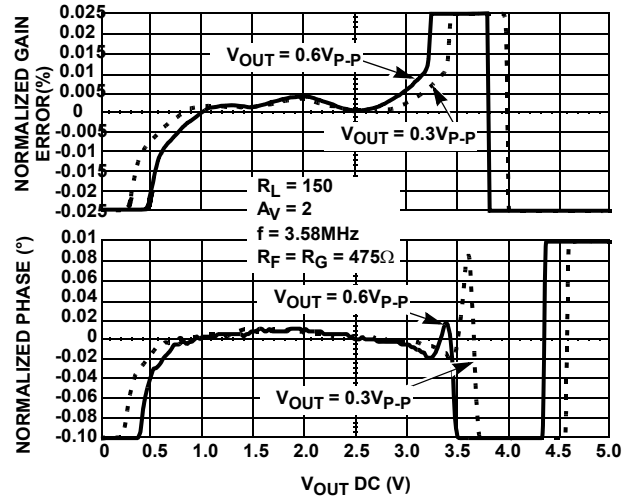
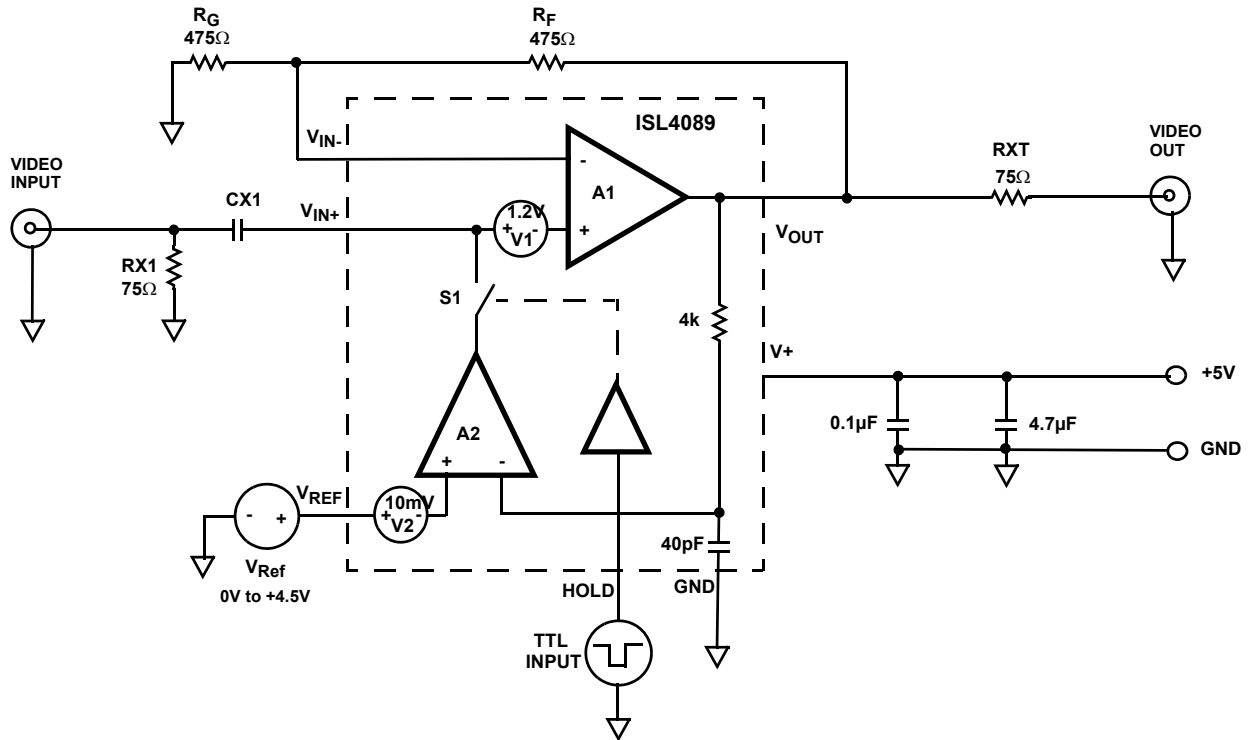

FIGURE 6. DIFFERENTIAL GAIN - PHASE
FIGURE 13. BASIC +5V APPLICATION CIRCUIT
**Video Amplifier Operation (Figure 13)**
**DC-Restore Amplifier (Figure 13)**
Implementing DC-restore and amplifying composite video using a single +5V supply amplifier, requires attention to the performance of the amplifier over the minimum to maximum range of output voltage swing. The differential gain - phase plot in Figure 6 shows the amplifier accuracy operating from a single +5V supply, driving a  $300\text{mV}_{P-P}$  and a  $600\text{mV}_{P-P}$  signal into a  $150\Omega$  load. Over the output DC voltage range of 0.5V to 3.25V, differential gain and phase are less than 0.05% and  $0.05^\circ$  respectively and defines the optimum output voltage range of the ISL4089. Figure 6 also shows that as the signal level increases, a corresponding decrease in the output DC level (min/max voltage swing) can be expected. The  $V_{REF}$  input enables the output DC voltage level to be optimally programmed within the min/max voltage range, according to Equation 2. The values in Figure 6 take into account the additional amplifier overhead ( $300\text{mV}_{P-P}$  and  $600\text{mV}_{P-P}$ ) needed by the video signal. Although the AC performance degrades below  $\sim 0.5\text{V}$ , the ISL4089 maintains DC accuracy down to 10mV.
A typical single supply application circuit using the EL1883 sync separator to generate the DC-restore hold command, is shown in Figure 13. The ISL4089 is configured for a gain of 2, and  $75\Omega$  input and output terminations are used for cable driving; providing an end to end gain of 1. DC-restore is performed during sync tip using the composite sync output of the EL1883, which clamps the  $-300\text{mV}$  input sync tip level to 0VDC at the ISL4089 output (Figure 15 - lower trace). Clamping sync tip to 0VDC forces the black level, color burst and active video to the  $+300\text{mV}$  level at the  $75\Omega$  load in the terminal equipment, and to  $+600\text{mV}$  at the ISL4089 output pin. The  $+600\text{mV}$  DC offset is safely within the lower linear range of the ISL4089 output (Figure 6 - Differential Gain - Phase) and the 2V maximum video amplitude at the output is safely within the upper limit. In applications where the sync tip level can't be guaranteed, positioning the active video within the linear range can be accomplished using the back porch clamp output of the EL1883 and supplying +1V to the  $V_{REF}$  input. This has the effect of clamping the back porch to the +1V  $V_{REF}$  level at the output while enabling the negative sync tip level to pass through to the output.